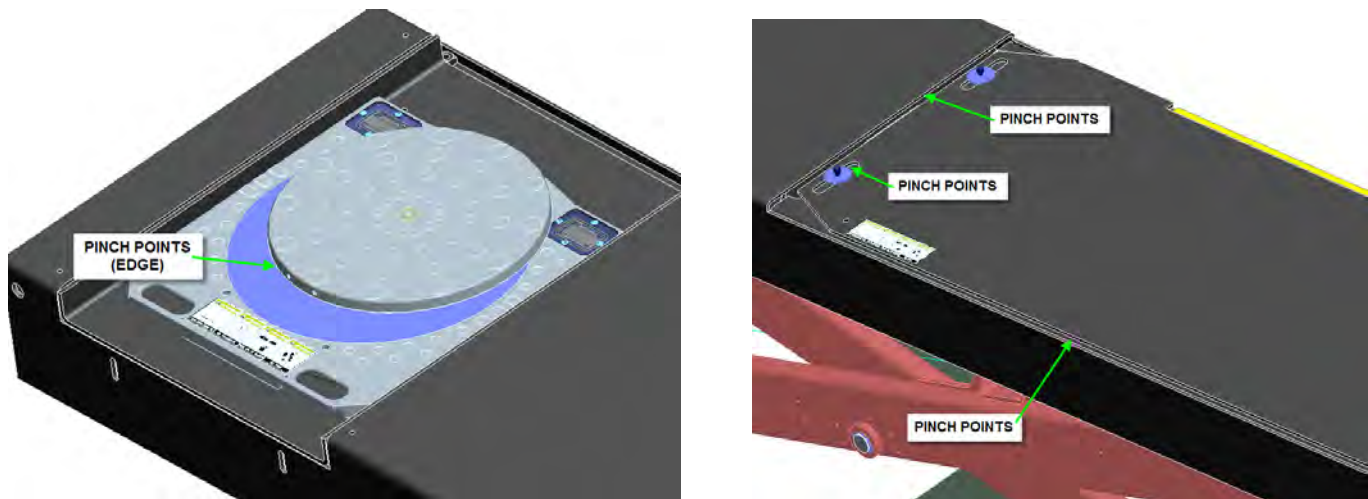

Figure 29 – Pinch Points
2. Place each front turnplate assembly, one by one, on the front alignment pan on runway. Moving handles of the turnplates should be oriented to the outside of lift, shown below. See **Figure 29**.